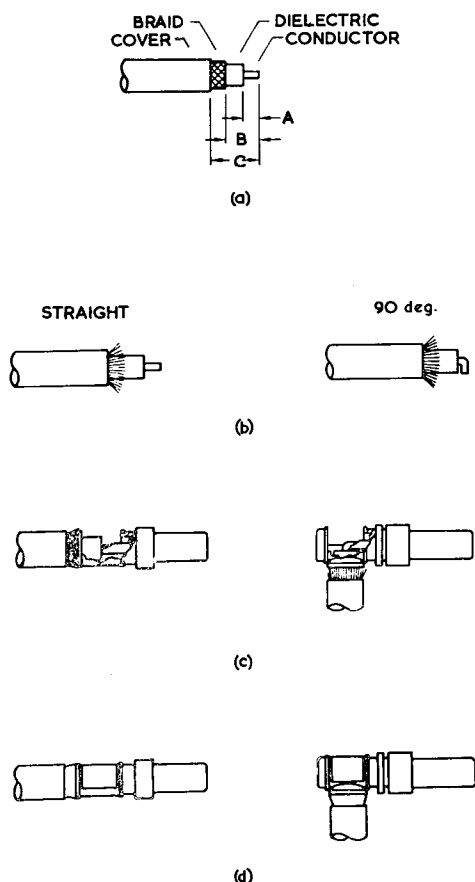

Fig. 7. Wiring method for R coaxial connectors
(3) R coaxial contacts (fig. 7).
(c) Trim the cable to the dimensions shown as A and B in Table 4 and fig. 7 (a).
(e) Remove the solder pot cover. Insert the prepared end of the cable and solder the conductor to the contact. If a straight contact is used the dielectric should butt against the contact solder pot (fig. 7 (c)).